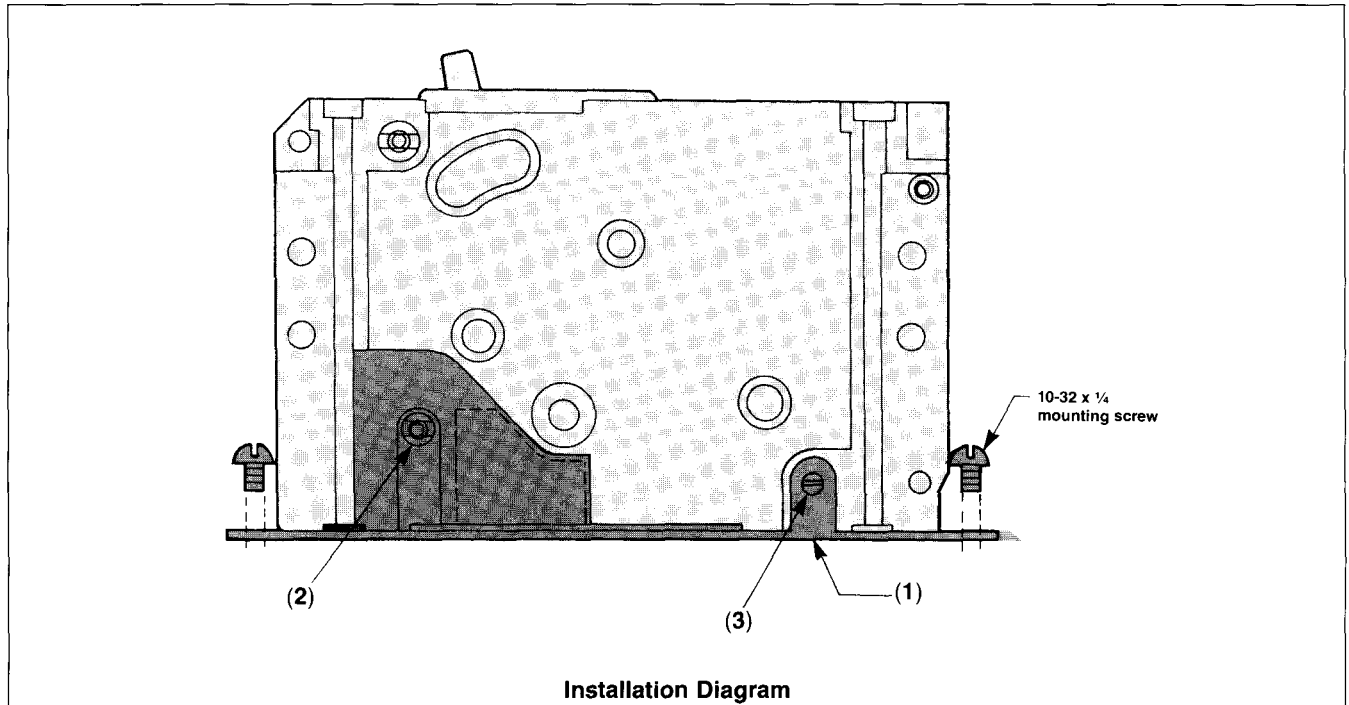

Figure 1
- A. Place short tab (1) in circuit breaker case slot and then slide both tabs toward matching holes in side of circuit breaker case (Figure 1).
- B. Long tab (2) must be snapped into place. (It can be removed by prying up with screwdriver and sliding it off.)
- C. Fasten mounting bracket to circuit breaker with self-tapping screw (3) provided (6 in. lb. max. torque).
① This bracket is used for single pole mounting with or without accessory module.